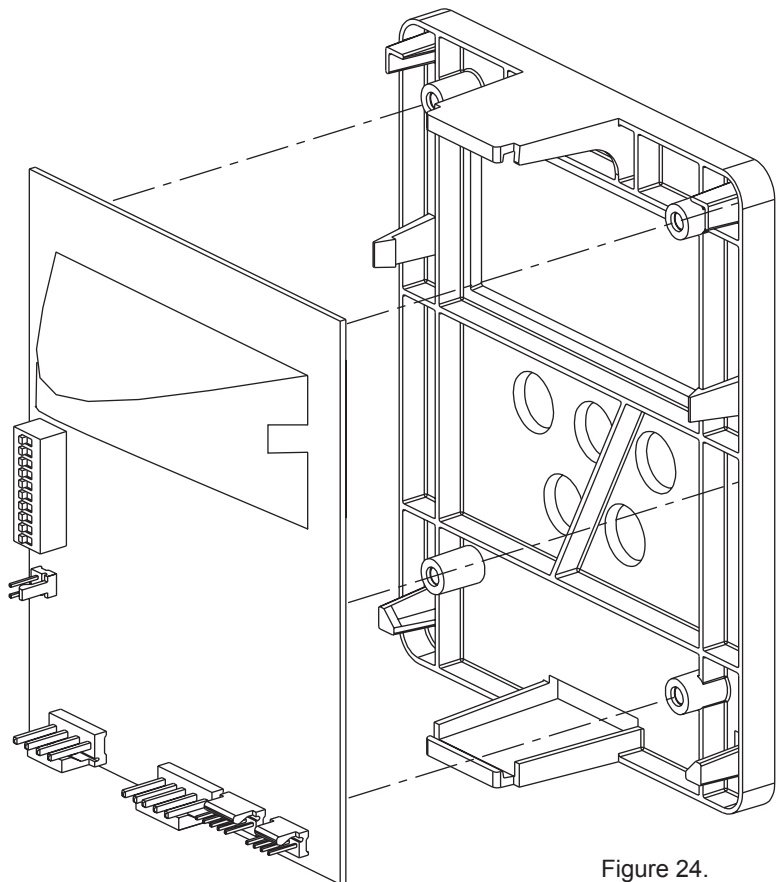

Figure 24.
4. Unsnap the circuit board from the mounting plate. See Figure 24.